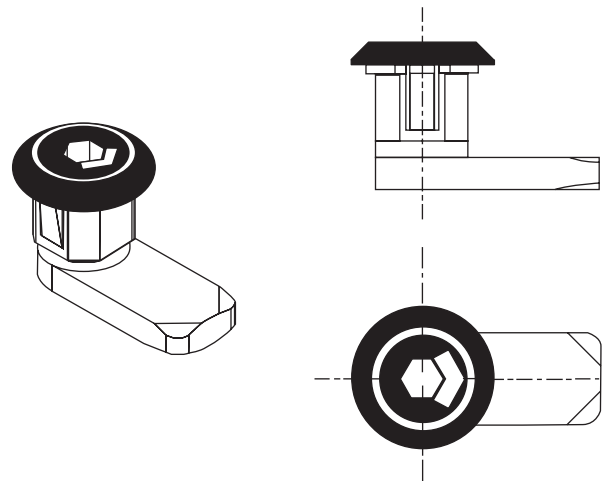

Fig. 17 — Panel Latch Assembly
7. Re-install panels and secure panel latches. The panel latch incorporates cam action on each edge (top and bottom) to secure the panel. See Fig. 17. The panel latch assembly has a 90 degree rotation with a click detent feature that detents at 0 and 90 degrees. The arrow indicator displays the latch position.